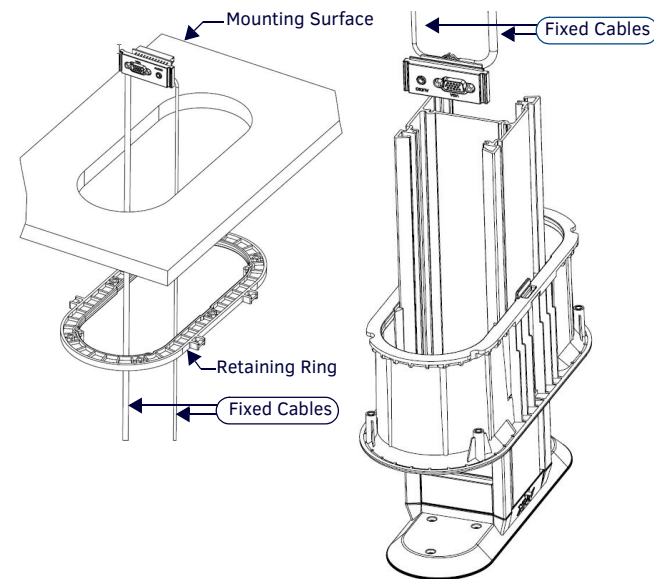

FIG. 4 FIXED CABLE PASSING THROUGH RING, TABLE AND INTO THE HPX-1600 ASSEMBLY
- Then to the module before the module is placed into the base assembly, as shown in FIG. 4: